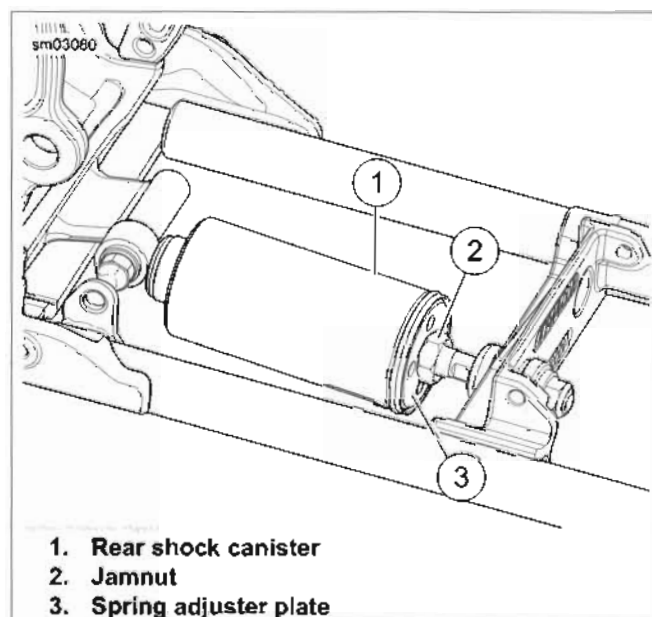

Figure 1-56. Rear Shock Adjustment
- See Figure 1-56. Hold the shaft with a wrench on the flats of the shock shaft and loosen the jamnut (2).
- Use the tangs of the SHOCK ADJUSTMENT SPANNER (Part No. 94448-82B) in the holes in the rear shock canister (1) to turn the canister clockwise until it stops. This position is the minimum preload position.